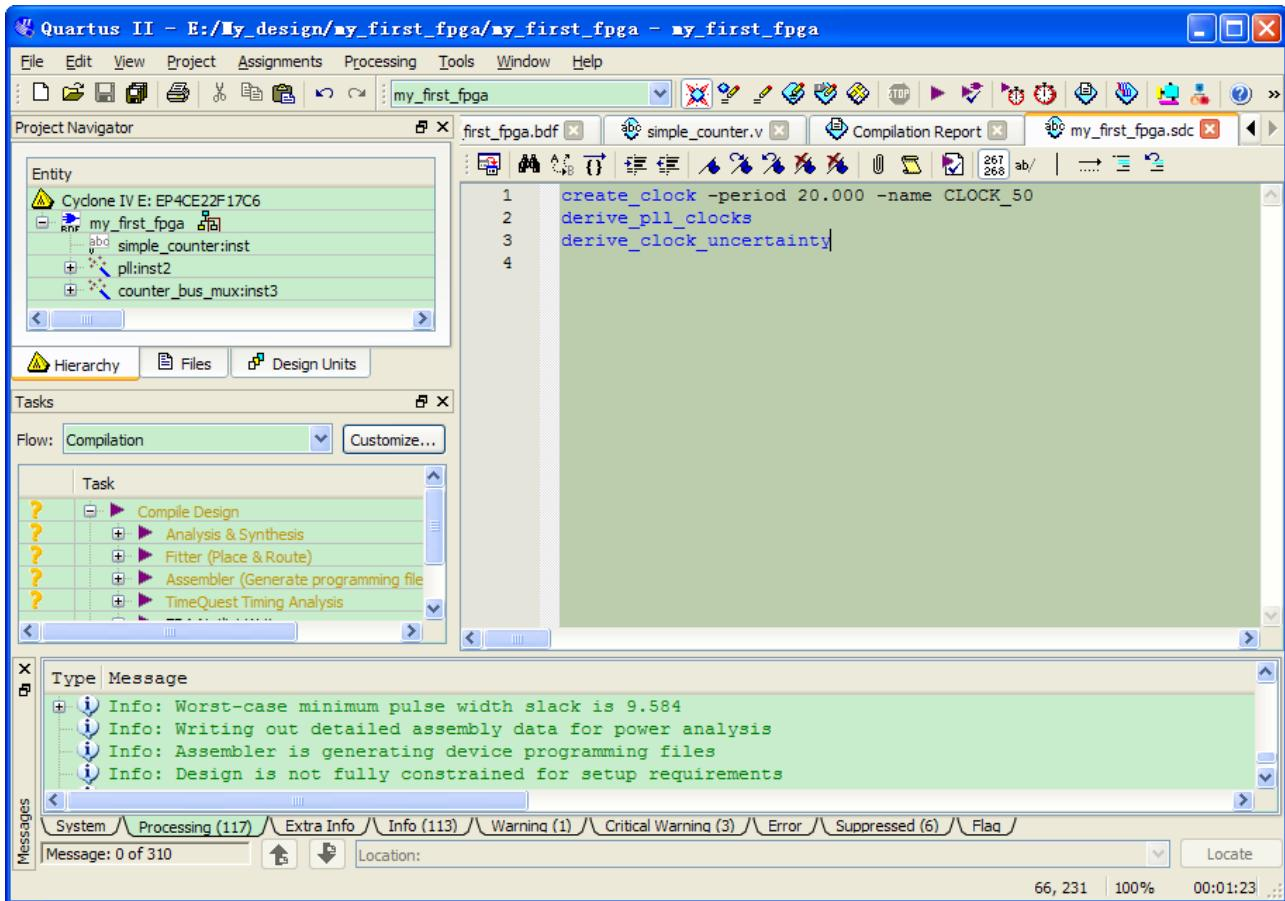

Figure 6-43 Default SDC
4. Save this file as **my_first_fpga.sdc** (see **Figure 6-43**)